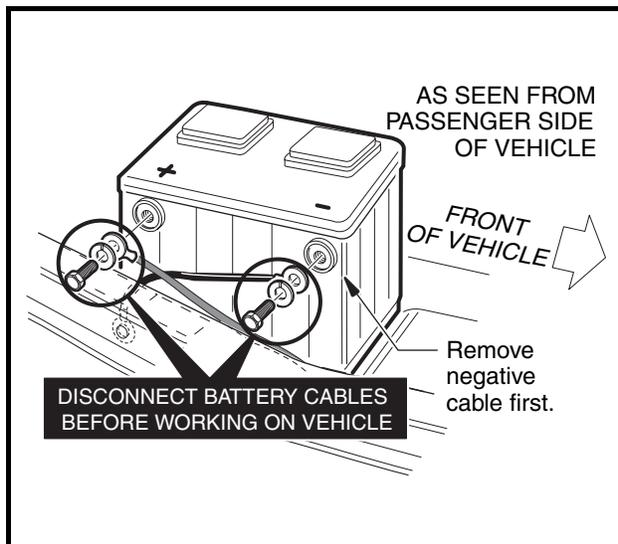

Figure 1-1 Gasoline Vehicles
- Disconnect battery cables, negative (–) cable first (Figure 1-1, Page 1-3).